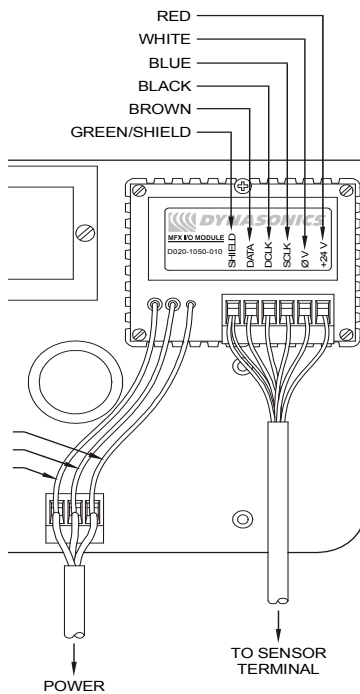

Figure 1.6
2. The terminals within MFX are a pluggable type - they can be removed wired and then plugged back in. Connect the appropriate MagProbe wires to P1 (Sensor) at the corresponding screw terminals on the MagProbe module. Observe proper wire colors and shield connections. See **Figure 1.6** or the Wiring Diagram located on the inner door of the transmitter.